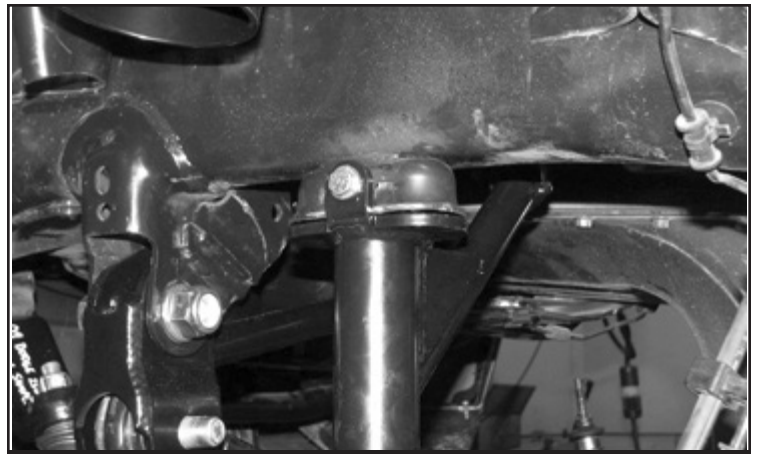

FIGURE 26 - STEP 30
30. Locate a 5/16" x 2-1/2" bolt, nut and washers. Using this bolt, secure the bump stop to the factory bump stop mount and torque to 29 ft-lbs. **SEE FIGURE 26**